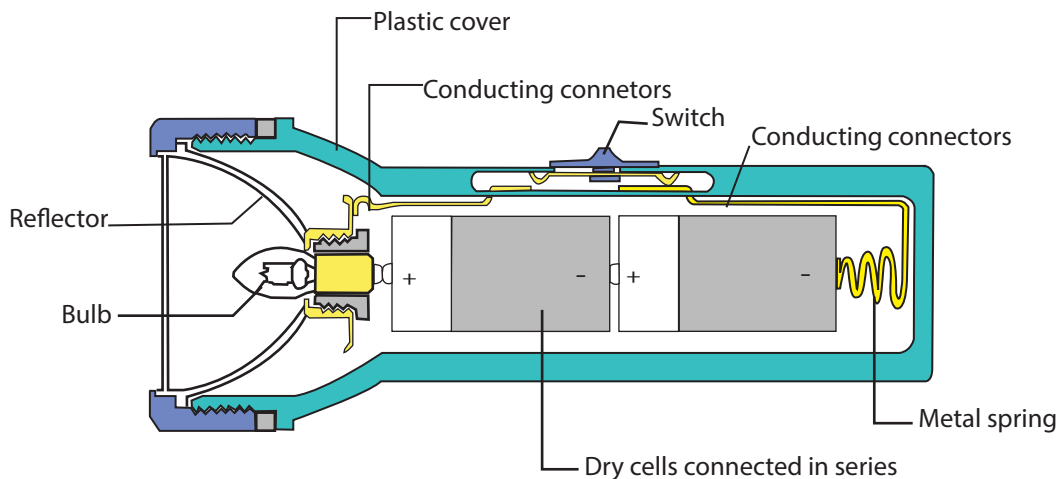

Figure 10.17 ▲ Electric torch
There are electric torches with only one dry cell or with several dry cells connected in series. The Figure 10.17 shows such an electric torch.
As shown in Figure 10.17, dry cells, bulb, metal spring and conducting connectors of this torch are connected with each other. But the circuit is opened because of the switch. Therefore, the bulb does not light. When the switch is pushed forward, the gap between the conducting connectors is closed and the bulb lights.
- Using the circuit symbols for bulb, electric cell, switch and connecting wires, draw the circuit diagram for electric torch in Figure 10.17.